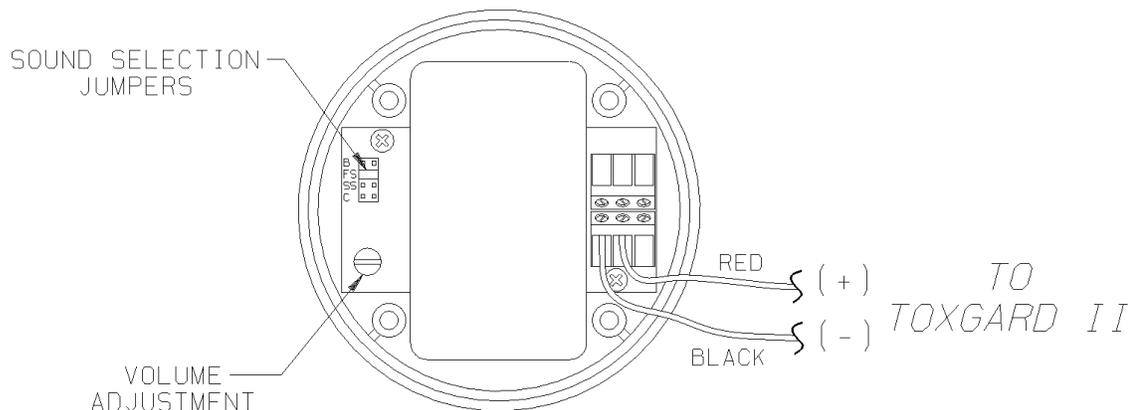

Fig. 14 Banshee Horn Audible Settings
- (3) Remove the four screws from the face of the horn.
- (4) Carefully separate the body halves of the horn.
- (5) To change the sound of the Banshee Horn, move the push-on jumper to the position to provide the desired sound (Fig. 14 "Banshee Horn Audible Settings").
- (6) To change the volume of the Banshee Horn, use a small, flatscrewdriver to adjust the volume control shown on Fig. 14 "Banshee Horn Audible Settings".